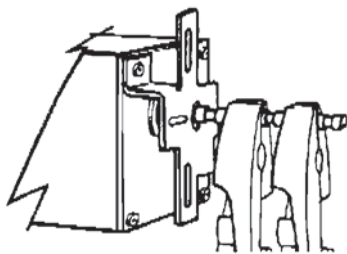

FIGURE 2
2. Position a suitable pair of pliers at either side of the marked groove. **Hold the pliers very firmly at the control body side of the groove.** With the other pair of pliers, carefully snap off the excess amount of shaft. (See Figure 2) **Caution: DO NOT HOLD, OR PLACE ANY STRAIN ON THE BODY OF THE CONTROL.**